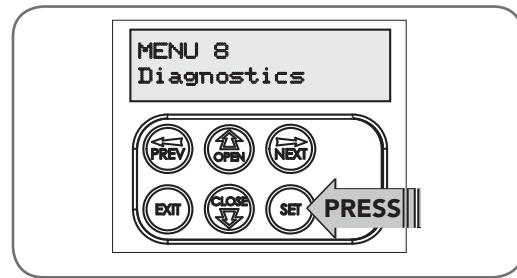

Fig E.1
- Press PREV to navigate to Menu 8 (**Fig. E.1**).